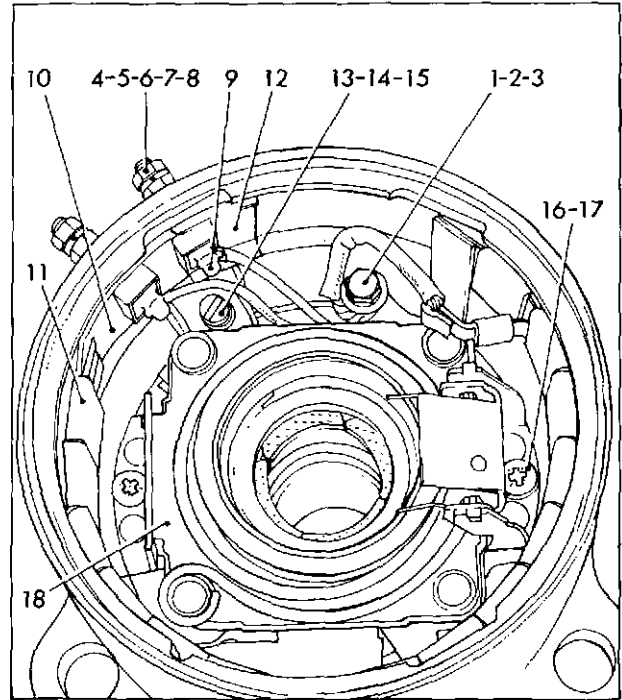
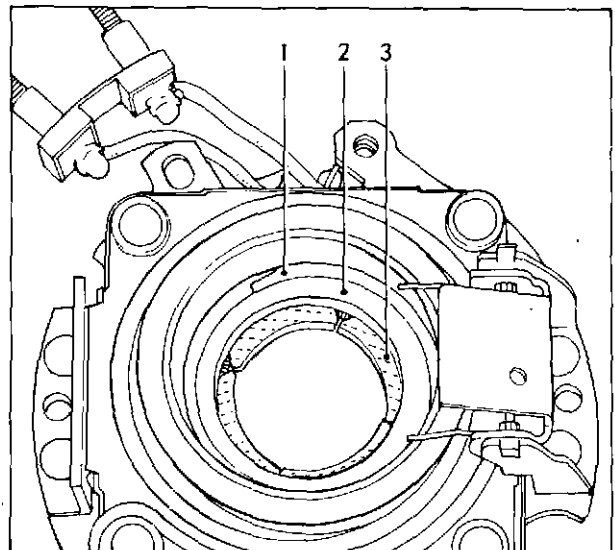

Fig. 6 Removing solenoid switch unit
Fig. 7 Removing solenoid plunger segments
Solenoid switch unit (fig. 6 and fig. 7)
4. Withdraw the switch assembly (18) from the drive end shield and lift out the plunger return spring.
5. Remove 'Spirolox' circlip (1) fig. 7 by levering the end inwards and 'winding' it out of its groove.
6. Remove retaining washer (2) and lift out the four segments (3), together with the garter spring.